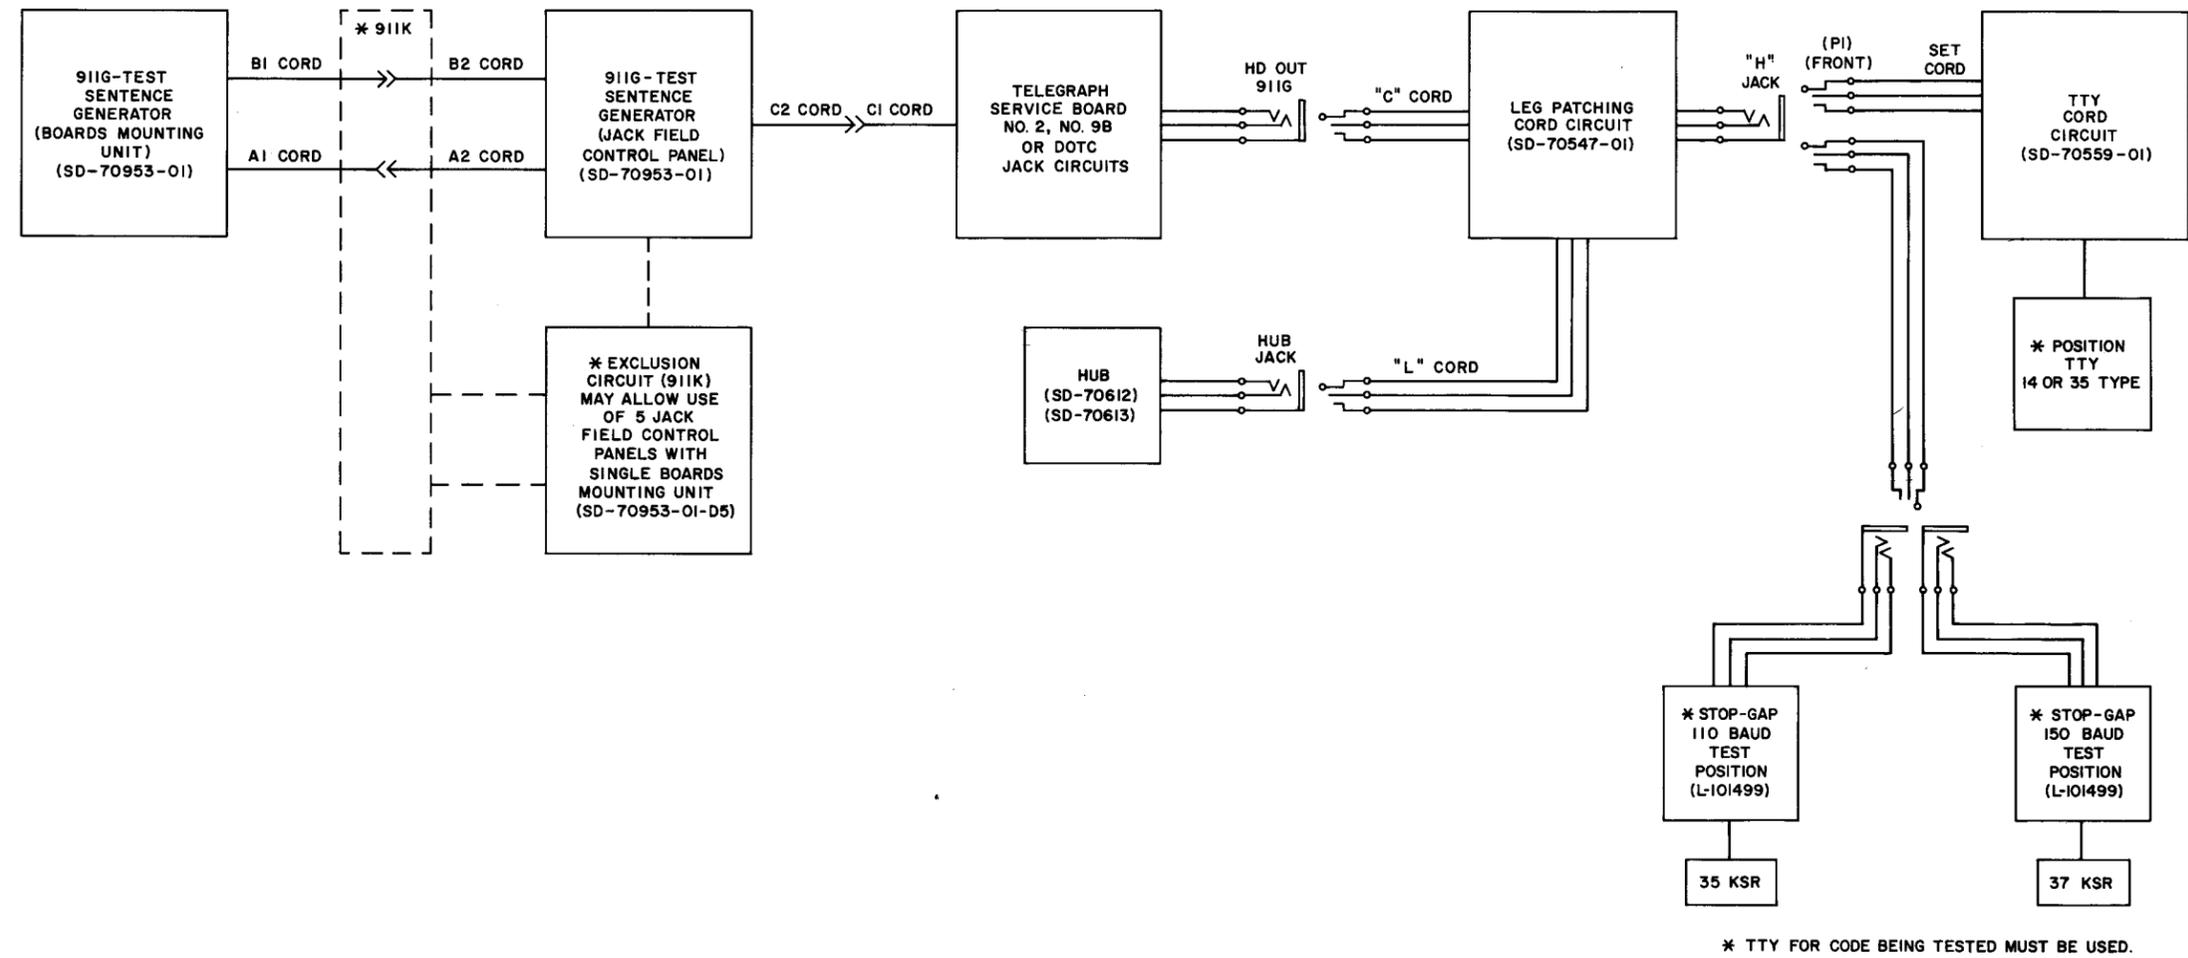

Fig. 2—911G Test Sentence Generator to Teletypewriter Test Connections
2.04 Make connections from the TSG to the TTY (5-element machine) as shown in Fig. 2.
2.11 Select an 8-element code and speed provided in the TSG, and change the TTY connection to an 8-element machine. The 8/10 code, 150-baud signal should be connected to the 37 KSR, and the 8/11 code, 110-baud signal should be connected to the 35 KSR (Fig. 2). Repeat procedures outlined in 2.06 through 2.10. The test sentence printed for the 35 KSR should read as follows: